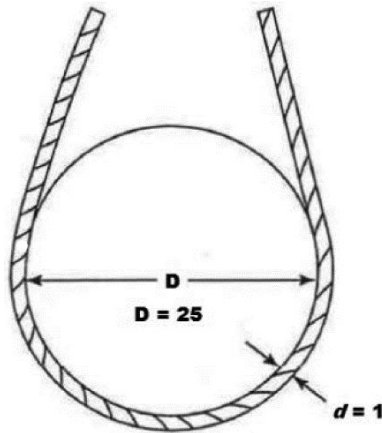

Figure 8
- Diameter of curvature over which the sling is used (D/d) (see Figure 8, D/d ratio);
(e) You must decrease the rated load of the sling when D/d ratios (Figure 8) smaller than 25 to one. Consult the sling manufacturer for specific data or refer to the *Wire Rope Sling User's Manual* (wire rope technical board).